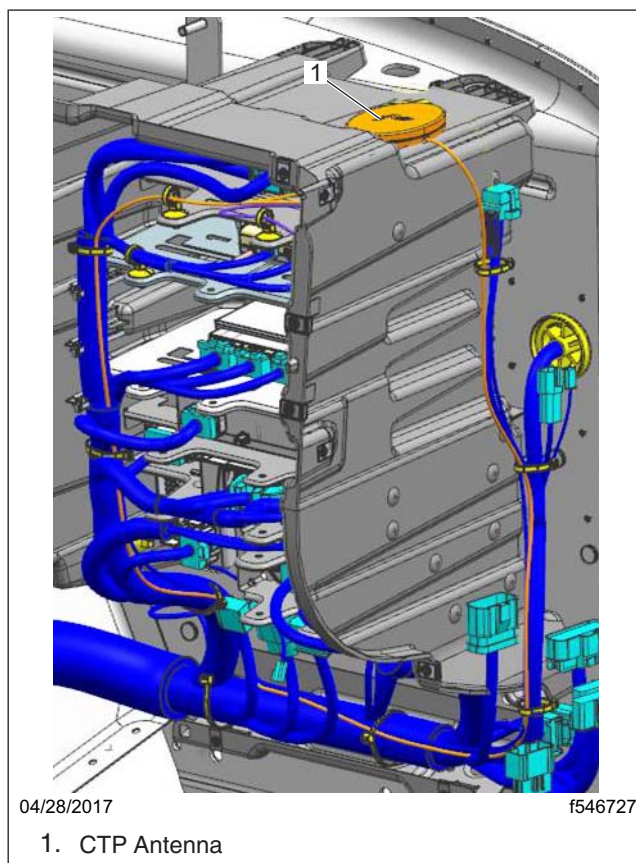

Fig. 4, Electronics Bay
- 16.3 Remove any tie straps that secure the antenna wire to the electronics bay harnesses. See **Fig. 4**.
4. Remove any tie straps that secure the antenna wire to the electronics bay harnesses. See Fig. 4.